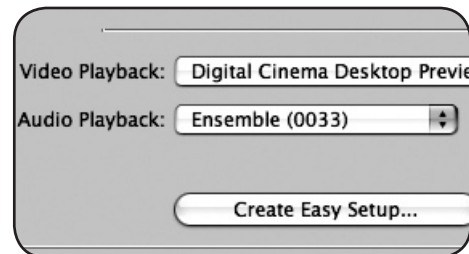

figure 26
1. Playback – Open **Final Cut Pro > Audio Video Settings** and set **Audio Playback** to **Ensemble**. (figure 26)